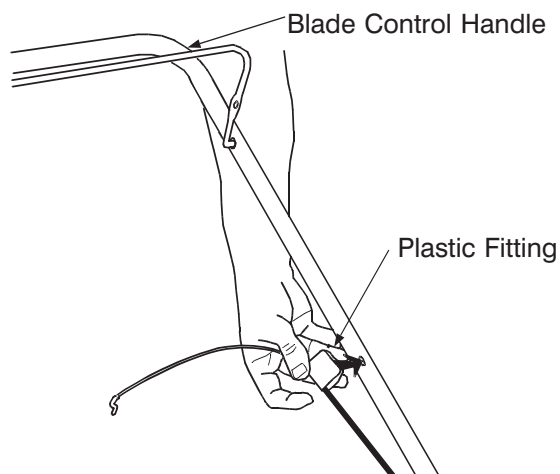

Figure 3
- over the lower handle. Snap the plastic fitting into the hole on the **inside** of the upper handle as shown in Figure 3.